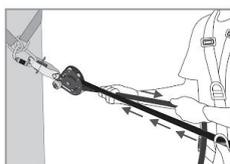
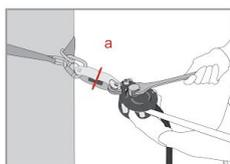

Fig 3
Fig 4
Once the lifeline is installed, a pre-adjustment of the tension must be made by pulling manually on the rope (knot end side – Fig. 3). Automatically, the cam (8) and the cam lever (4) must come into contact with the rope. Close the cam lever (4), then, using an appropriate wrench, apply tension on the tension adjustment bolt (1) until the tension indicator washer (a) placed on the tension indicator (2) turns freely (Fig. 4). Once this washer moves freely, STOP TIGHTENING! This corresponds to a pre-tensioning on the line of approximately 1 kN. During use, regularly check this tension (rotation of the tension indicator washer) and adjust if necessary, as explained above. **WARNING!** Do not try to loosen the tension adjustment bolt (1) with the wrench, the cam (8) resists this loosening and resists rotating counter-clockwise. Significant loosening in this direction may have harmful consequences on the operation of the system and on the condition of the rope.